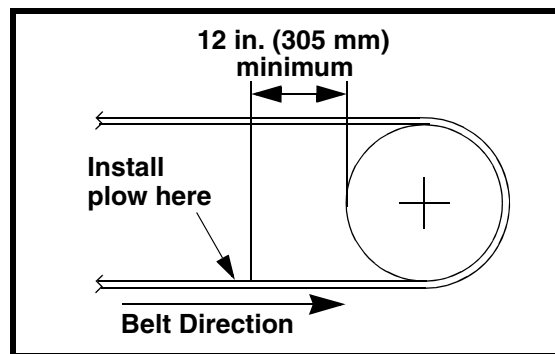
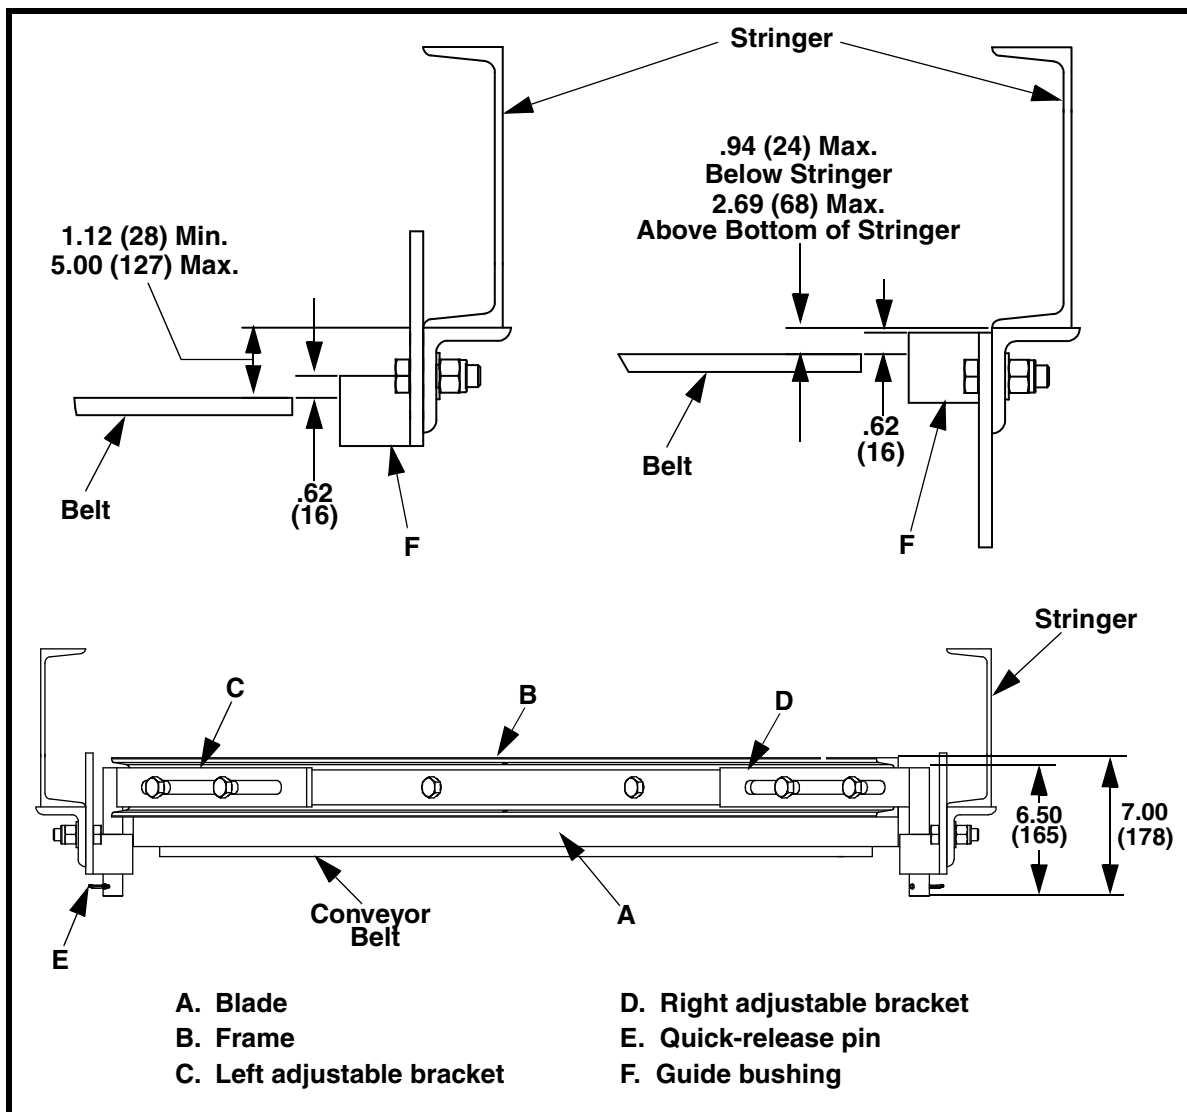

Figure 1. Locating Plow on Belt
Figure 3. Installing Martin® Diagonal Plow Assembly
1. Locate plow on return side of conveyor belt before tail pulley where belt is taut or supported by idler. (See Figure 1.) (For determining location of belt in relation to conveyor stringer, see Figure 3.)
5. See Figure 3. Adjust each guide bracket so top of guide bushing is 5/8 in. (16 mm) above belt surface. (This will allow 1-1/2 in. [38 mm] of blade wear.)
1. Loosen four hex head cap screws and elastic lock nuts attaching blade (A, Figure 3) and frame (B) to adjustable brackets (C and D).
2. Remove quick-release pins (E) from adjustable brackets.
3. Insert pins on adjustable brackets through right and left side guide bushings (F).
3. Check blade for wear. If blade no longer contacts belt and adjustable brackets (C and D, Figure 3) are resting on guide bushings (F), do the following:
- a. Remove hex head cap screws, flat washers, and elastic lock nuts attaching blade (A) and frame (B) to adjustable brackets.